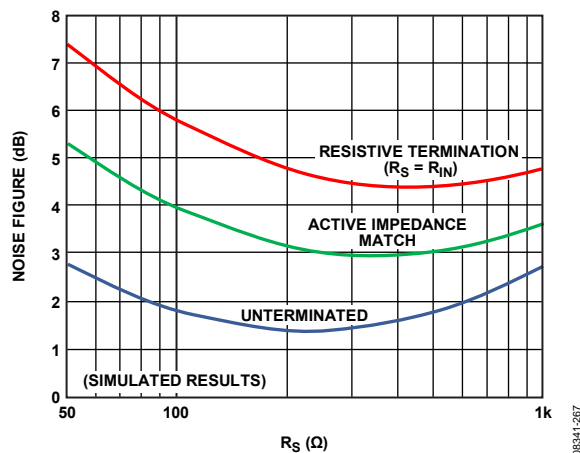

Figure 67. Noise Figure vs. R_S for Resistive, Active Match, and Unterminated Inputs
The primary purpose of input impedance matching is to optimize the input signal power transfer. With resistive termination, the input noise increases due to the thermal noise of the terminating resistor and the increased contribution of the input voltage noise generator of the LNA. With active impedance matching, however, the contributions of both are smaller than they are for resistive termination by a factor of $1/(1 + \frac{1}{2} \text{ LNA gain})$. The noise figure (NF) for the three terminating schemes is shown in Figure 67.